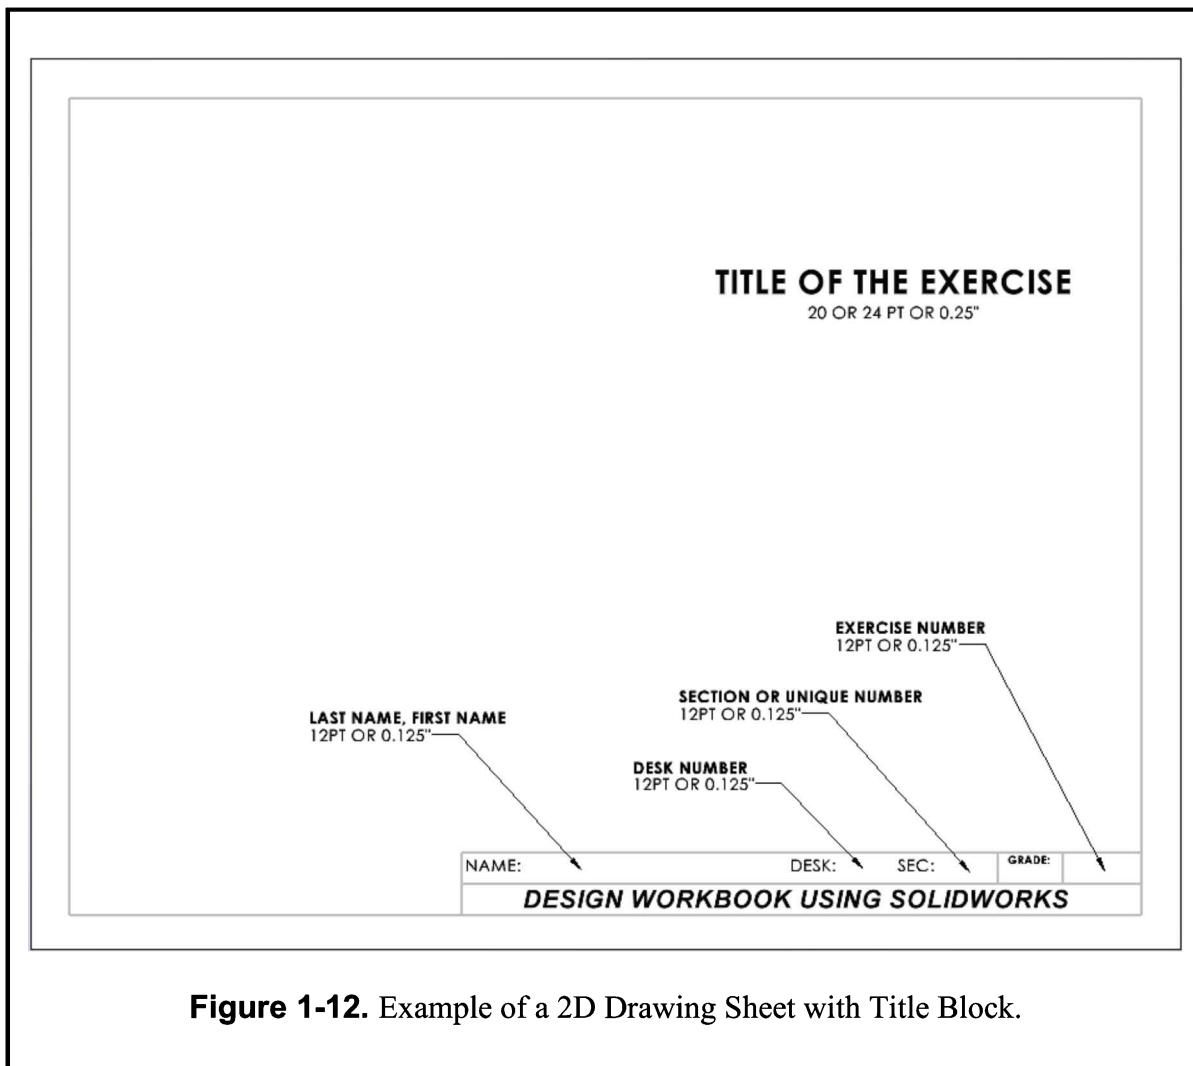

Figure 1-12. Example of a 2D Drawing Sheet with Title Block.
The next process is to set up a 2D Drawing with a Title Block to document the two dimensioning standards. You may have to draw a title block (see **Figure 1-12**) if one has not been provided. An example of a drawing with a title block, with suggested dimensions and style, is available in **Appendix A** and included with the book's files.
- B. Open the drawing template to be used (see **Figure 1-12** for example). Use the inches or metric drawing template as needed. If you choose the incorrect template, remember you can change the units of measurement later in the menu **Tools, Options, Document Properties, Units**.